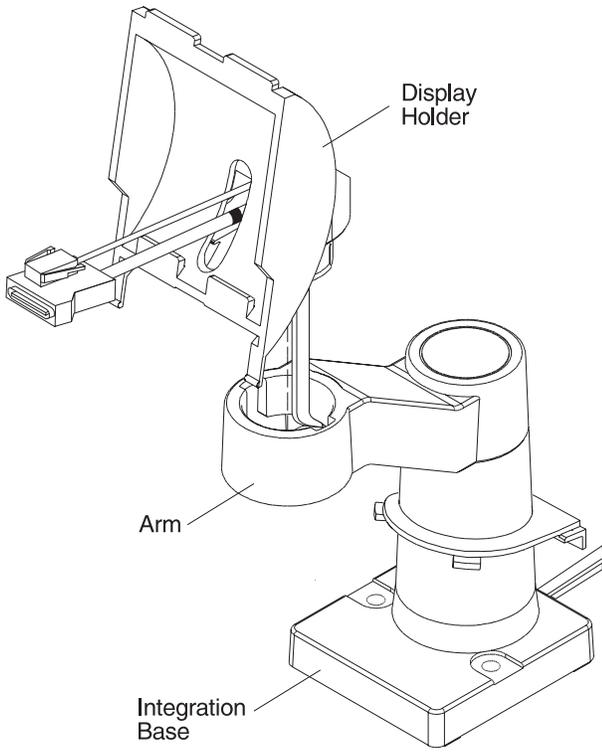

Figure 3-27. Integration Kit and Display Holder
- 1 Separate the display holder from the arm. See Figure 3-27 on page 3-22.
- 5 Tilt the display holder to the up position and route both cables through the opening at the center of the display holder. Make sure that the cables exit the display holder as shown in Figure 3-27 on page 3-22.